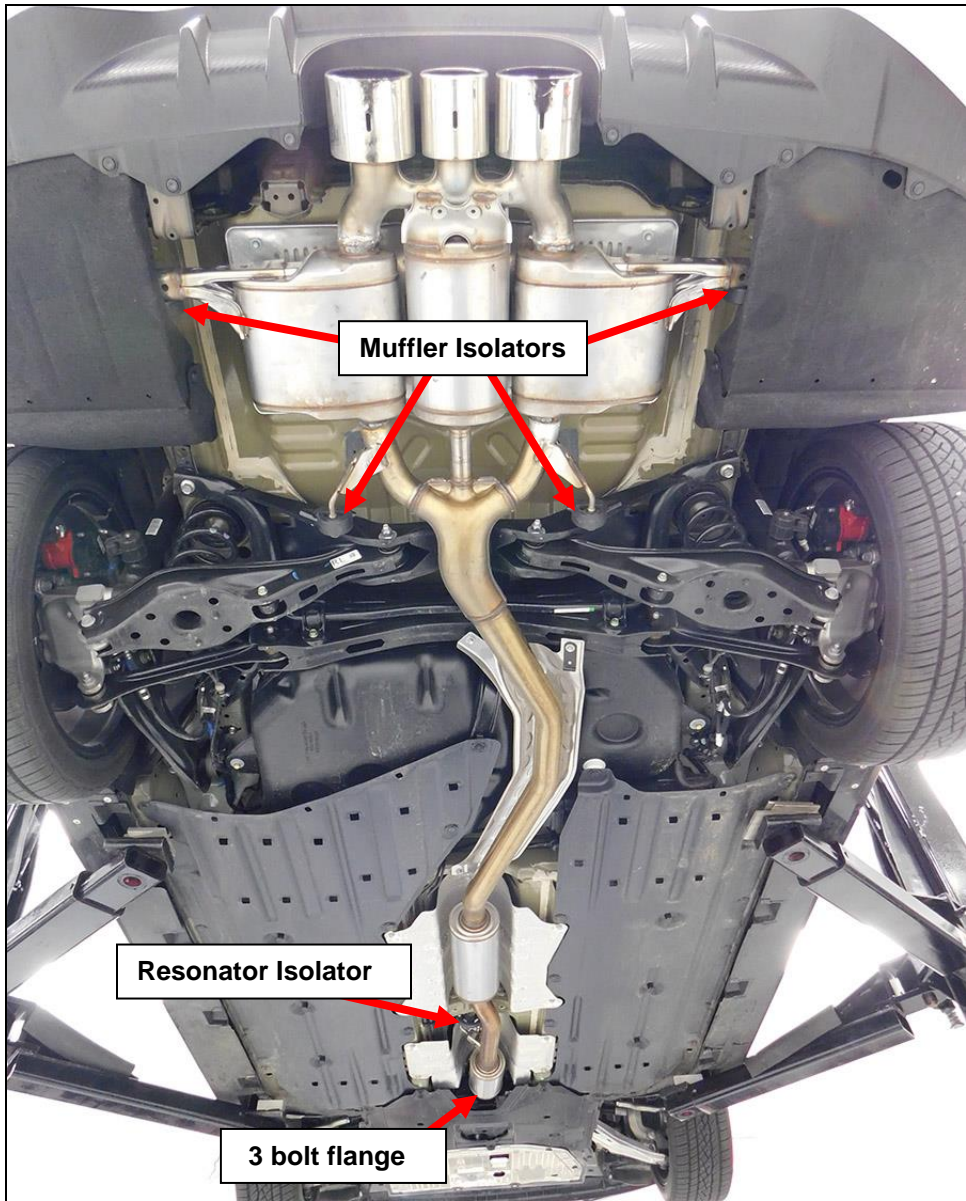

Figure 1
4. Remove the (x4) Isolators at the mufflers and the isolator on the Resonator (**Figure 1**).
5. Remove the (x3) 14mm nuts at the flange that connects the mid pipe to the cat-back exhaust (**Figure 1**).